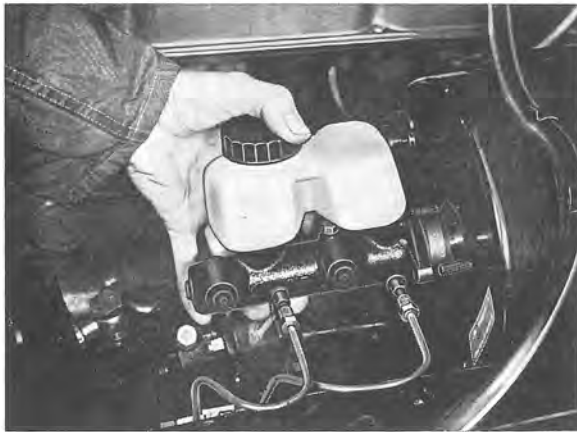

Fig. 5-44. Removing master cylinder
3. Remove the two attaching nuts for the master cylinder and lift the cylinder forwards, see Fig. 5-44. Empty out the brake fluid.